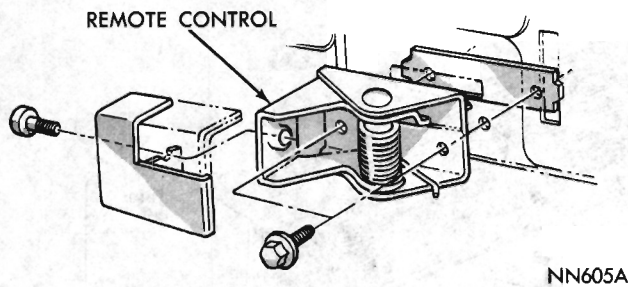

Fig. 19 - Remote Control Handle
The remote control handle (Fig. 19) is attached to the control unit with a screw at the rear inner end.
- (1) Raise door glass.
- (2) Remove screws attaching remote control base to door panel (Figs. 19 and 20).
- (3) Remove link from remote control lever.
- (4) Remove control through large opening in door.